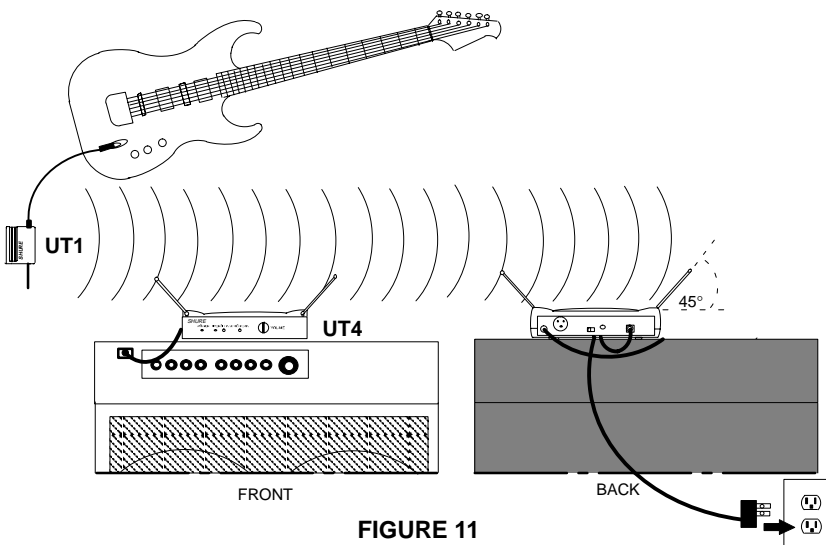

FIGURE 11
1. Refer to Figure 11. Connect the supplied ac power adapter to the DC INPUT connector in back of the receiver. Insert the adapter's cable into the power cable retainer. Plug the adapter into a wall socket or other ac power source (use PS20 for 120 Vac, 60 Hz power; use PS20E for 230 Vac, 50 Hz power). The green POWER light on the receiver will glow.